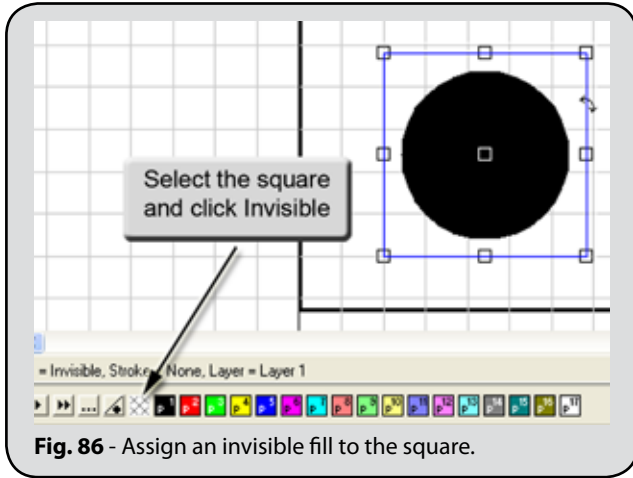

Fig. 86 - Assign an invisible fill to the square.
4. Draw a square around the circle and assign an Invisible fill (Fig. 86).